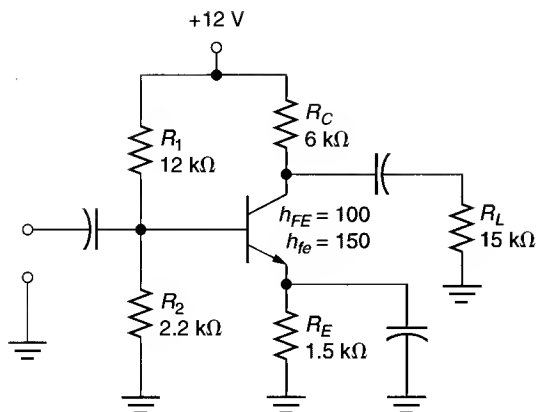

FIGURE 9.30
7. Determine the value of r'_e for the circuit shown in Figure 9.30.
9. Derive the ac equivalent circuit for the amplifier shown in Figure 9.30. Include all component values.
19. Determine the value of A_v for the amplifier in Figure 9.30.
25. Determine the value of A_p for the circuit shown in Figure 9.30. Assume that the circuit has a value of $A_i = 14$.
31. Calculate the open-load voltage gain for the circuit shown in Figure 9.30.
35. Determine the values of $Z_{in(base)}$ and Z_{in} for the amplifier in Figure 9.30.